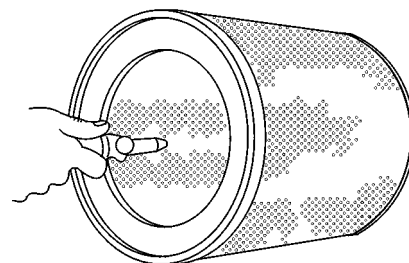

FIGURE 40-7. CLEANING THE FILTER ELEMENT WITH COMPRESSED AIR
2. As shown in Figure 40-7, direct the stream of air from the nozzle against the inside of the filter element. This is the clean air side of the element and air flow should be opposite of normal air flow.